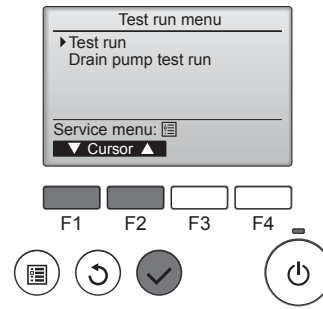

Fig. 7-5
- ④ Select "Test run" with the or button, and press the button. (Fig. 7-5)